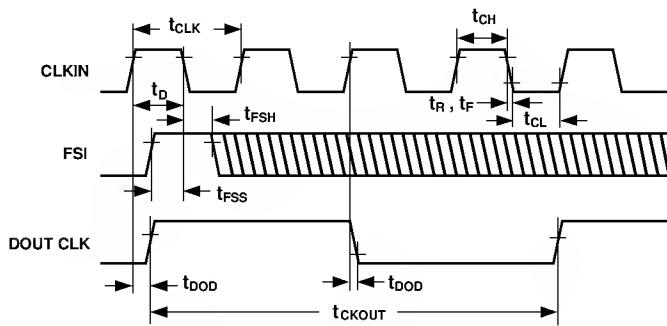

Figure 17. Frame Sync Input (FSI) Timing (FIR Filter Output Mode)
Referring to Figure 17, the FSI pin is sampled on the falling edge of CLKIN. The FSI pin must adhere to several conditions depending on which mode is being used as follows:
3. FSI must be synchronized to CLKIN to meet the timing requirements outlined in Figure 17.
The FSI pin is useful when multiple AD776s are used together and must be synchronized. In such a case, a single pulse may be applied to FSI inputs of the converters. This causes the internal "state-machine" of the AD776 to be reset. Thus, the internal clocking for both the analog and digital circuitry of each individual converter is synchronized and inphase. In the case of a single FSI pulse, it must still adhere to the timing outlined in Figure 17.